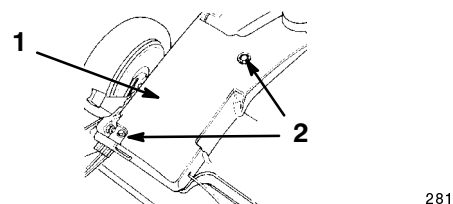

Figure 27
4. Remove the two bolts that secure the belt cover and remove the belt cover (Fig. 27).
2. Remove the two bolts that secure the belt cover to the lawn mower housing (Fig. 27).